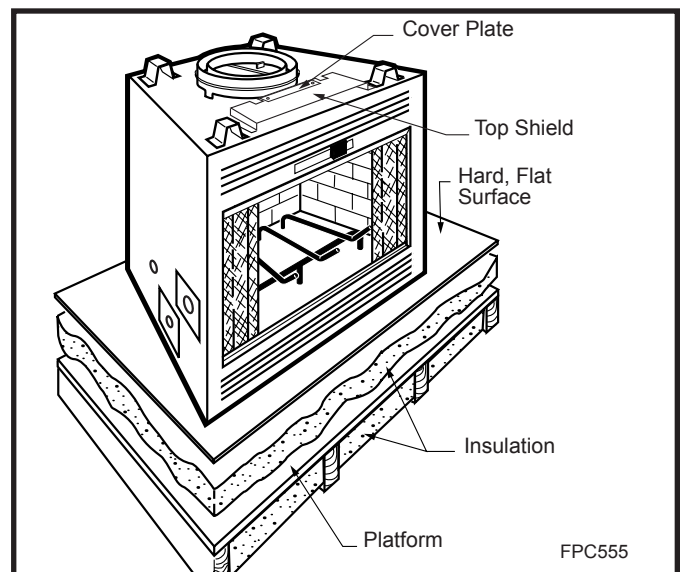

Fig. 8 Insulating between platform and fireplace.
Insulate base of fireplace with a noncombustible insulation rated for a minimum of 300°F. Insulating is **very important** for outside wall installations over a concrete slab. If fireplace is installed on a platform, insulation should be placed on top of the platform **before** fireplace is set. (Fig. 8)
**NOTE:** To use the TWABR adapter on the CWC400, remove and discard the cover plate on the top shield. (Fig. 8)